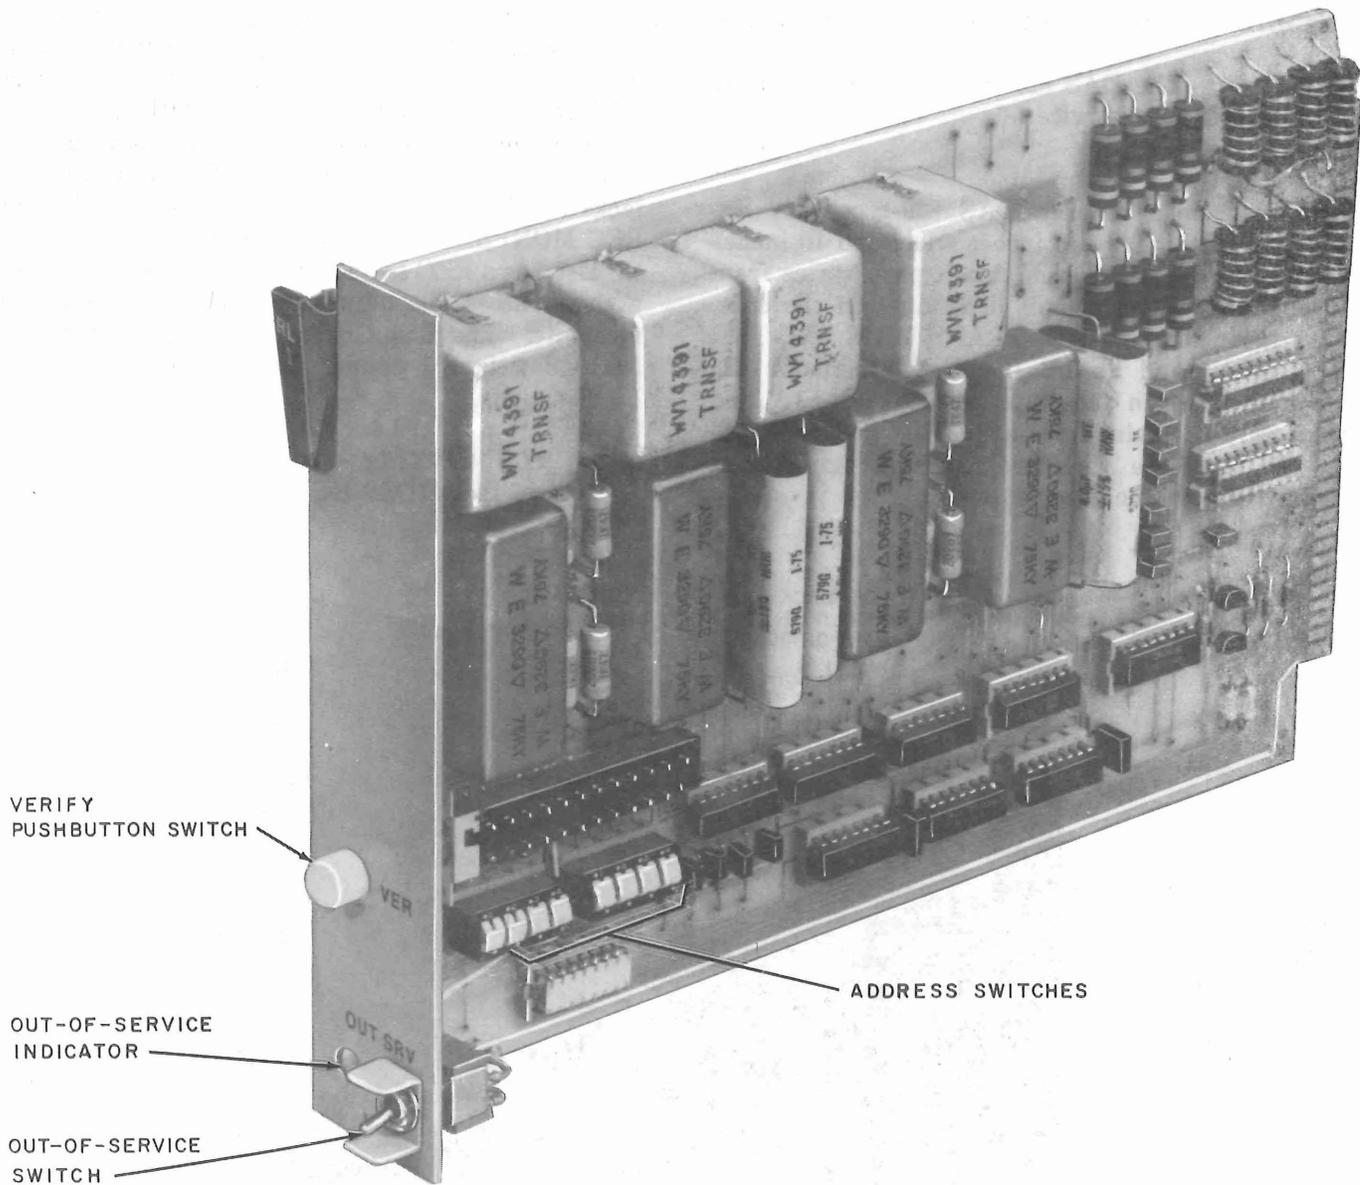
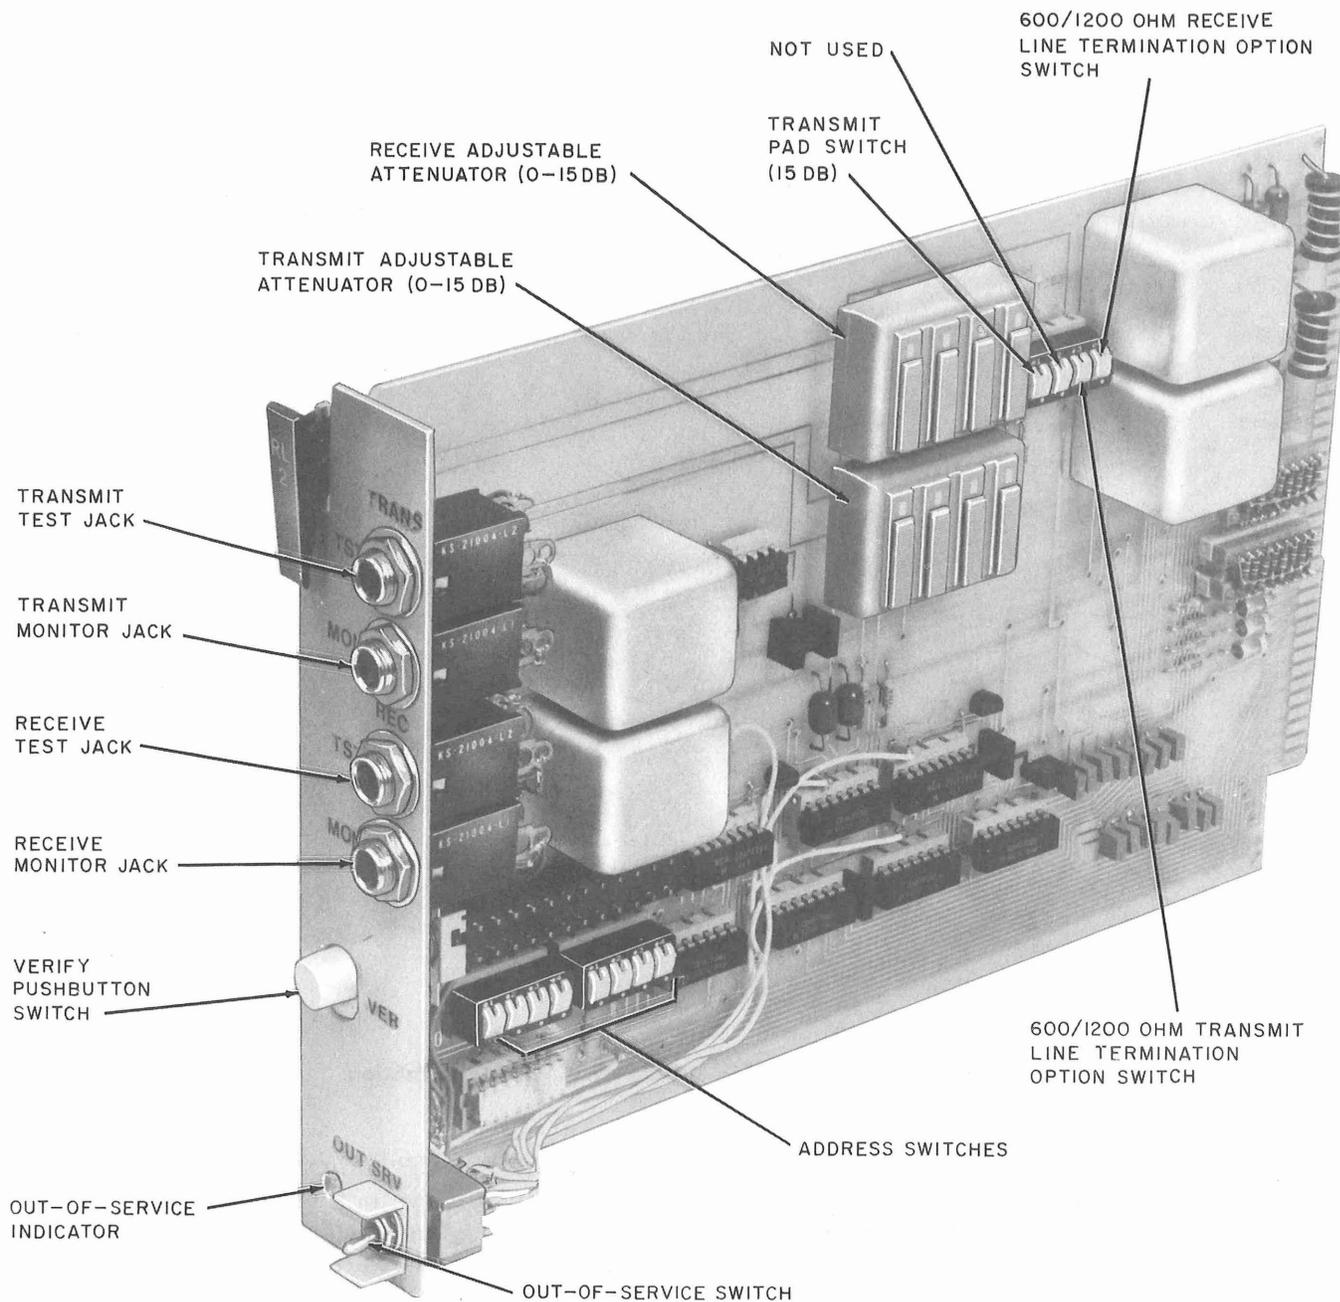
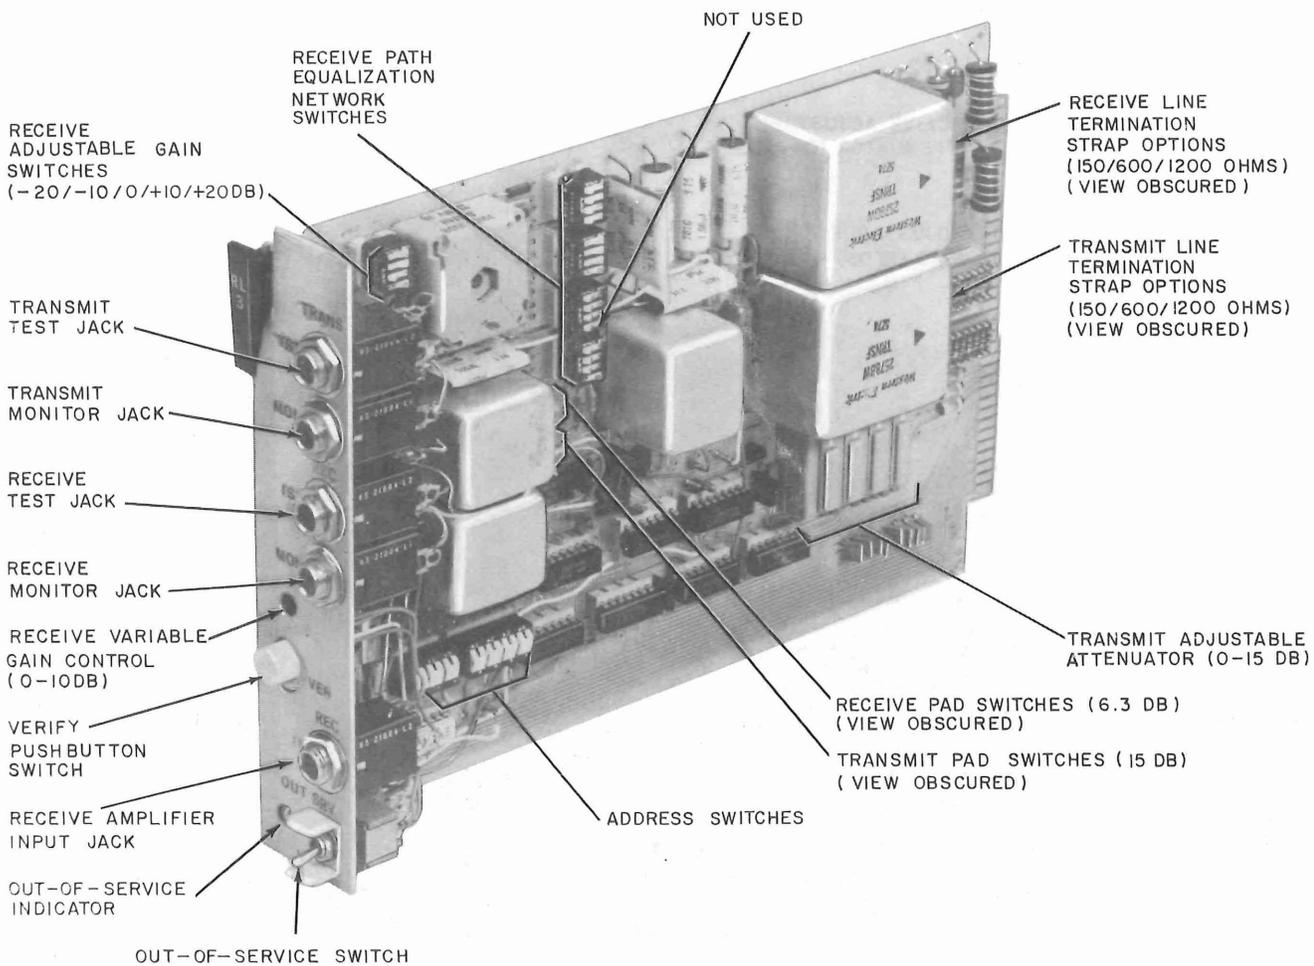

Fig. 4—RL1 CP—Four 2-Wire Ports
Fig. 5—RL2 CP—One 4-Wire Port
Fig. 6—RL3 CP—One 4-Wire Port With Equalization
2.05 RL1 (Fig. 4), RL2 (Fig. 5), and RL3 (Fig. 6) CPs: Each circuit pack is 6-3/8 inches high, 7-3/8 inches wide, and 10 inches deep. A pushbutton switch (VER), a toggle switch (IN SRV/OUT SRV), and an indicator (OUT SRV) are mounted on the faceplate of each circuit pack. In addition, the RL2 CP and the RL3 CP have four jacks (TRANS TST, TRANS MON, REC TST, and REC MON) mounted on their faceplates. The RL3 CP also has a REC IN jack mounted on the faceplate with an accessible adjustment screw through the faceplate. The RL1 CP weighs 1-3/8 pounds; the RL2 CP weighs 1 pound, and the RL3 CP weighs 1-7/8 pounds.